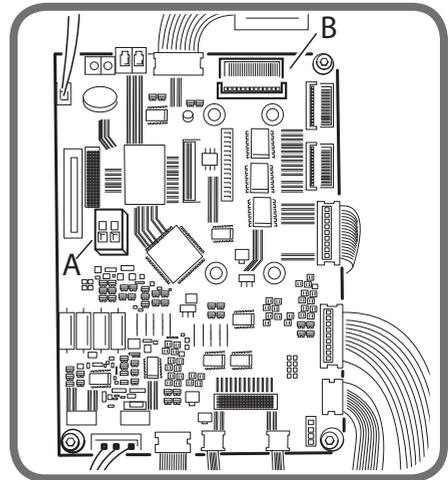

Fig.5A
- With the machine turned off, set the deep-switch (A, figure 5A) which is necessary for accessing the diagnostics mode, i.e.:
- With the machine switched off set the relative deep switch (A, figure 5A) which is necessary for the programming based on the card to be updated, i.e.:
- Connect the serial cable code 8-21100224 to the “JPS1A” connector of the card itself (see part B figure 5A). The other end of the cable is connected to the RS232 serial port on the PC. If the PC does not have a RS232 port use the RS232/USB adapter code 8-21100226. If necessary, download the drivers for the adapter from the website “http://www.ftdichip.com”